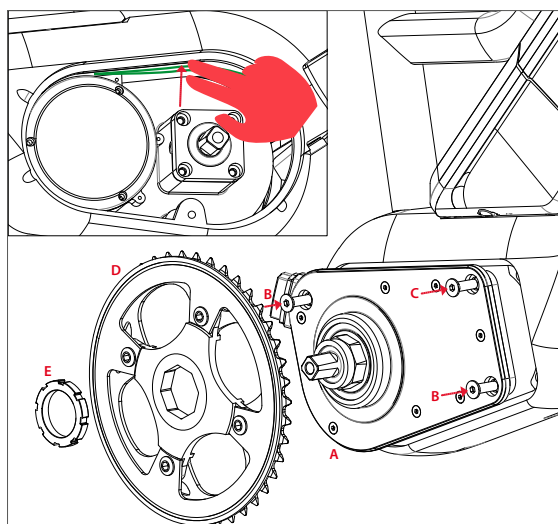

Figure 4.5 Mid motor assembly 1
2. Insert the motor [A] into the hanger (Fig. 4.5).
3. Mount the motor using three M8 x 25 fasteners [B] and one M8 x 18 fastener [C] (Fig. 4.5 and 4.8). Tighten the fasteners to 18 - 20 Nm.
5. Install the chain ring [D] and the spider nut [E] and tighten them (to 35 Nm) with the wrench or castle nut (Fig. 4.5, 4.6 and 4.10).
7. Install the chain ring [D] and the spider nut [E] and tighten them (to 35Nm) with the wrench or castle nut (Fig. 4.5, 4.6 and 4.10).
3. Mount the motor using three M8 x 25 fasteners [B] and one M8 x 18 fastener [C] (Fig. 4.5 and 4.8). Tighten the fasteners to 18 - 20 Nm
5. Install the chain ring [D] and the spider nut [E] and tighten them (to 35Nm) with the wrench or castle nut (Fig. 4.5, 4.6 and 4.10).